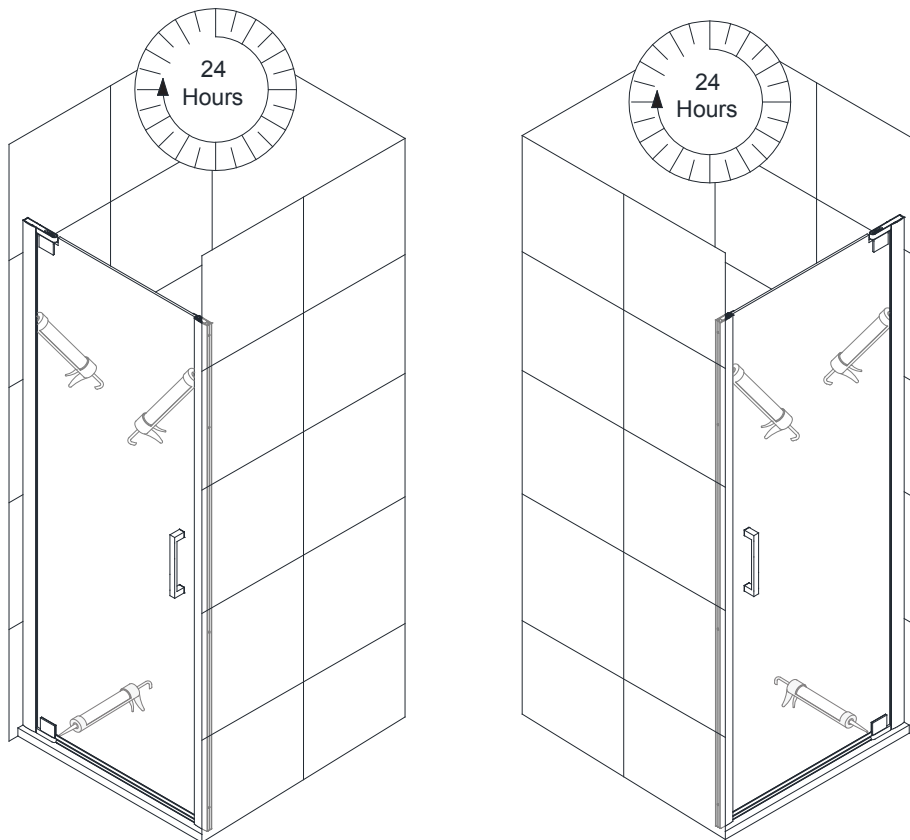

Fig 17
17. Apply a good quality mildew-resistant silicone along the **Wall Profiles** where they attach to the wall and along the threshold and the bottom **Pivot Bracket**. (Fig 17)